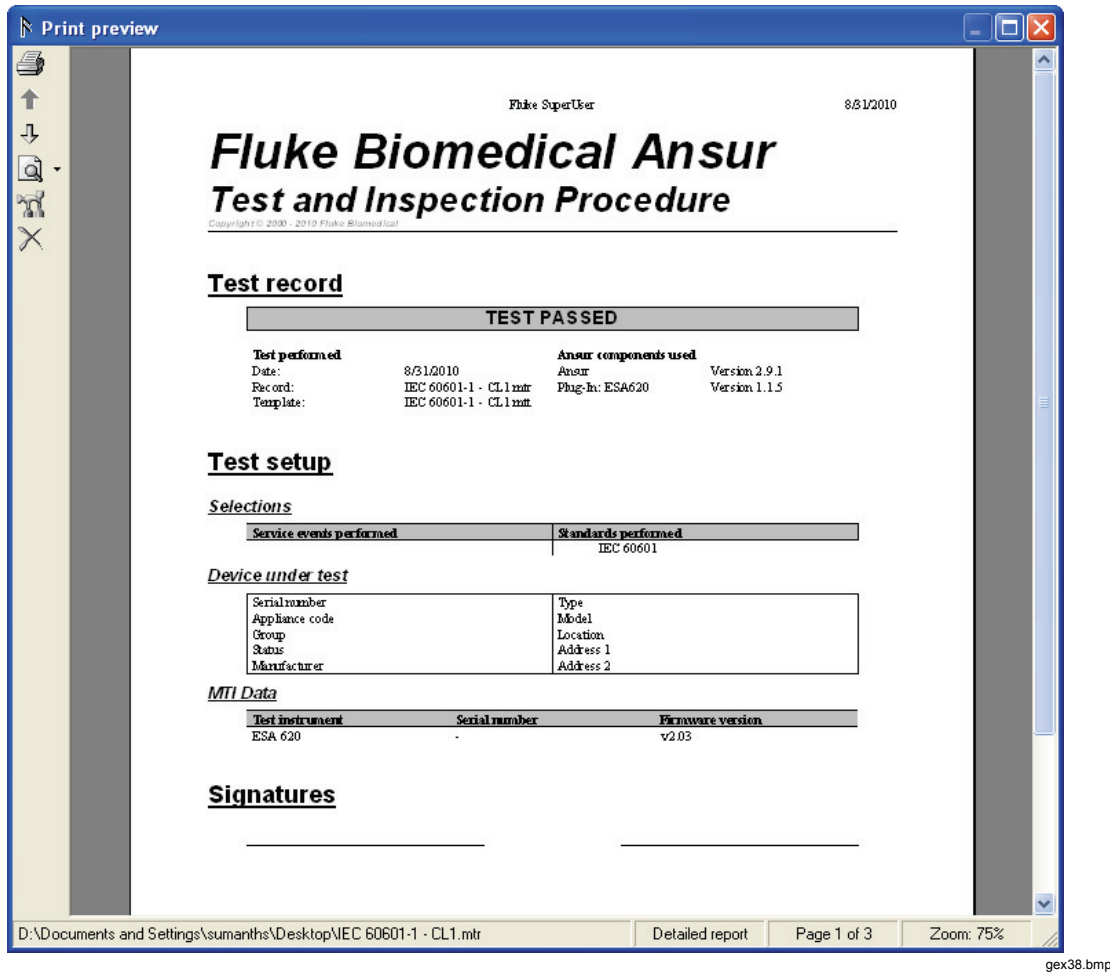

Figure 3-16. Print Preview of Test Report
2. Select the desired print type and click on **Print** to display the report in the preview window as shown in Figure 3-16.